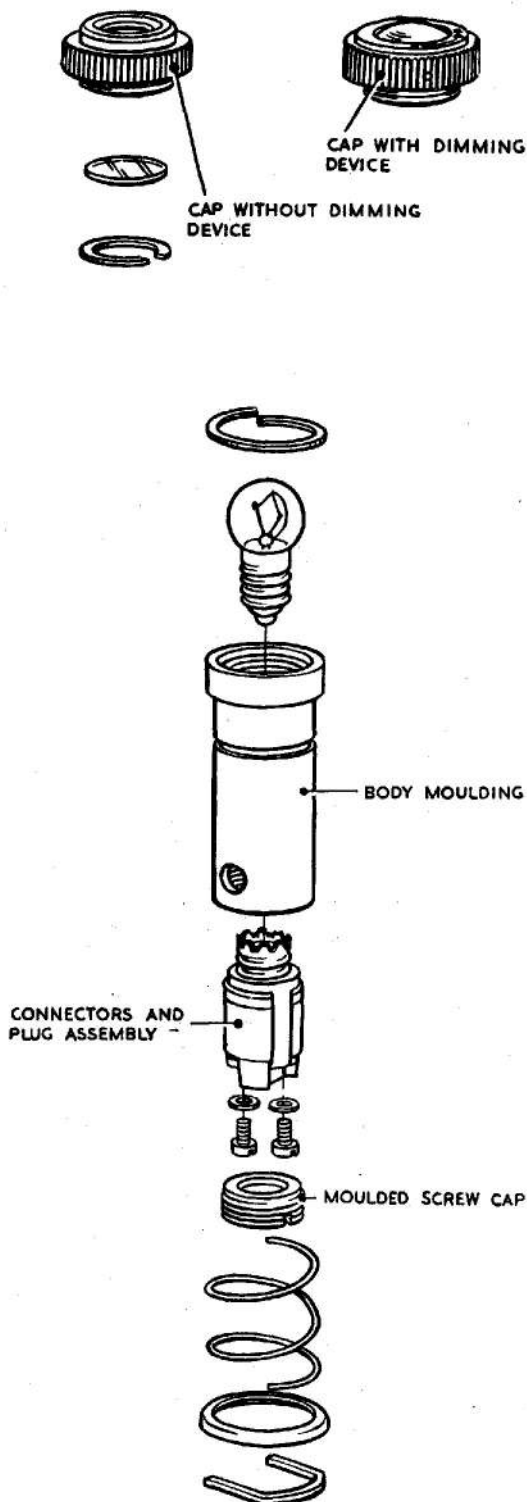

Fig. 1.
3. The exploded view shown in fig. 1 clearly indicates the construction of the lamps, which comprise a lamp cap (with or without dimming device), a miniature filament lamp, a body moulding, and a connector and plug assembly. A fixing spring which fits over the body moulding is retained by a cup and clip located in a circumferential groove and enables the lamp to be resiliently mounted on the instrument panel.